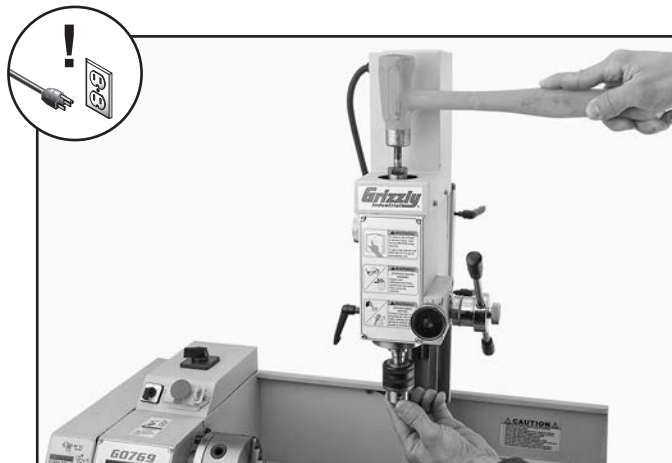

Figure 112. Tapping drawbar to unseat tool taper.
5. Tap top of drawbar with hammer to unseat taper (see **Figure 112**).